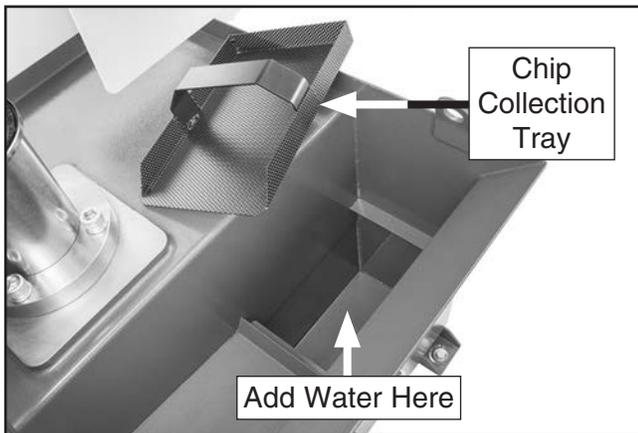

Figure 20. Coolant reservoir opening.
4. Remove chip collection tray and add 6.5 gallons of water to coolant reservoir (see **Figure 20**). DO NOT run machine without coolant in reservoir or coolant pump will be damaged.